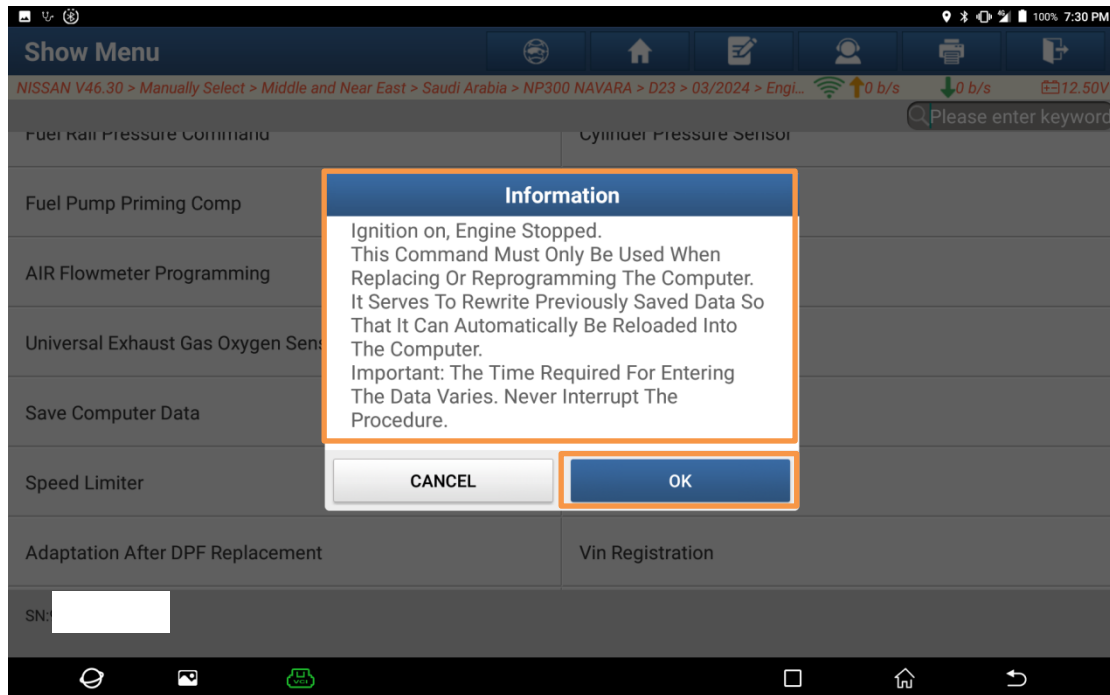
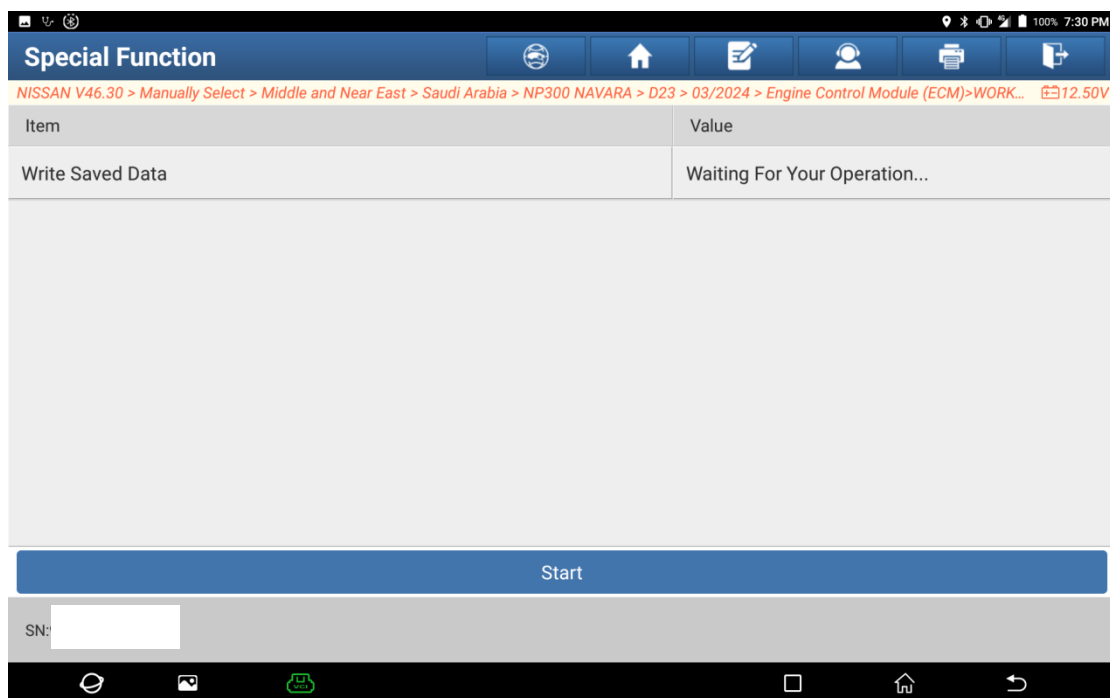

Figure 19
Figure 20
12. Read the pop-up prompts carefully (Figure 19). Ensure that the ignition switch is turned on and the engine is stopped. Click "OK" to enter the interface shown in Figure 20.